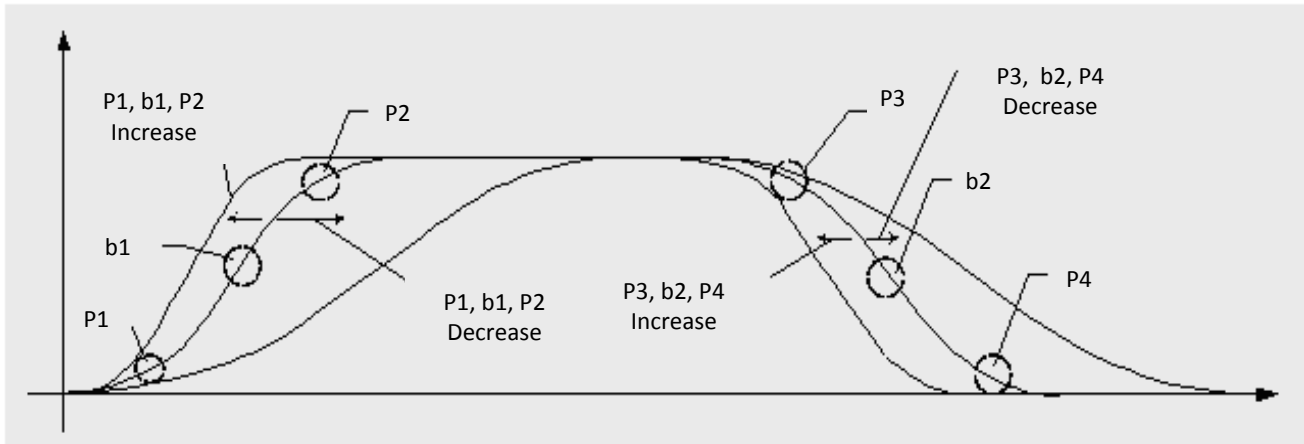

FIGURE 6.2 PARAMETERS ADJUSTMENTS FOR SPEED CURVE
- ✧ Elevator running comfort level can be set through the above 6 parameters. (Comfortlevel is also related to the drive control parameters.)The relationship between **b1, b2, P1, P2, P3, P4** and running curve are shown in Fig. 6.2.